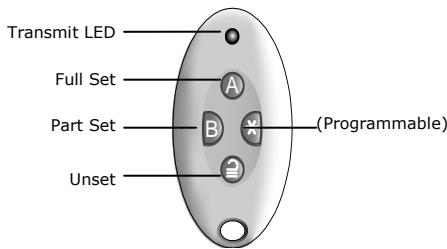

Figure 8. Remote Control Button Functions.
- 1. Press the appropriate button on the remote control, either full set (A) or part set (B) (see Figure 8).